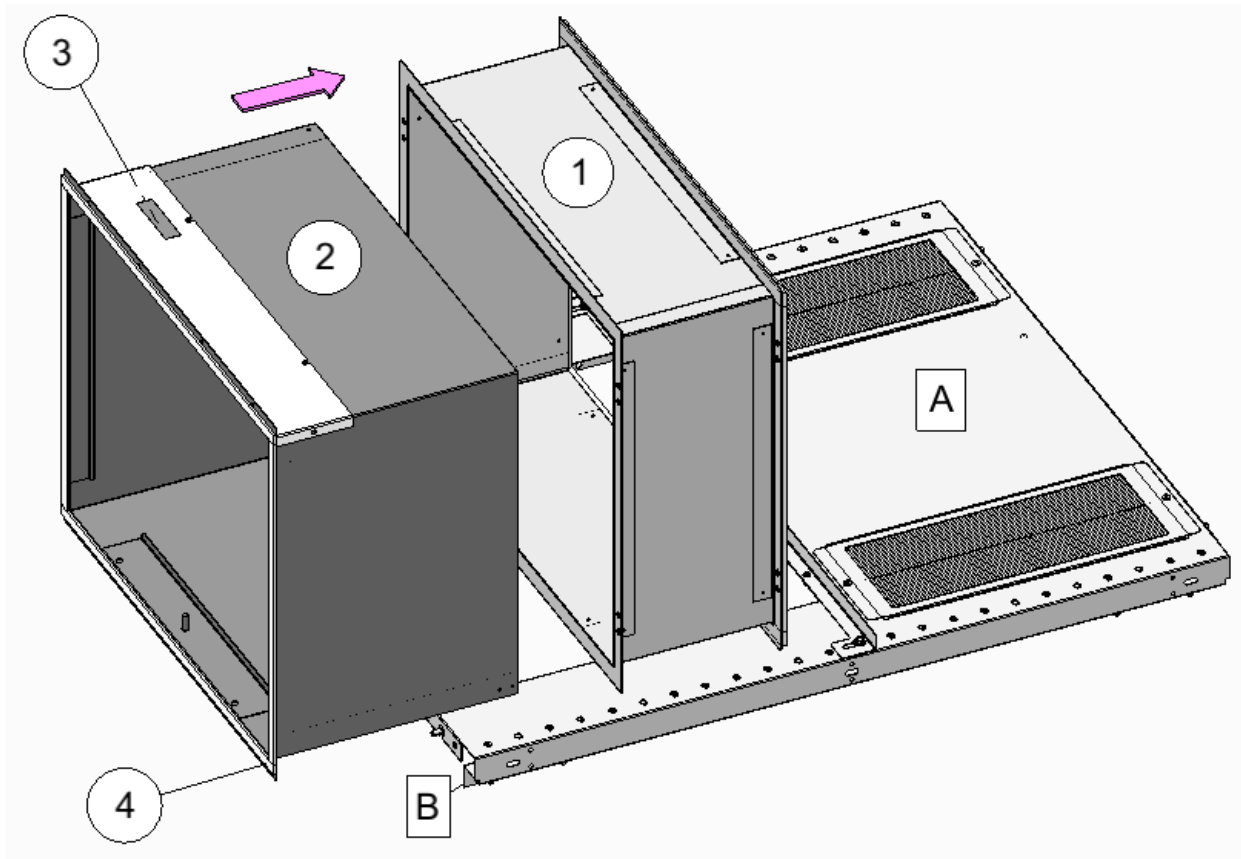

Figure 3: Slide Chimney Base Inside Chimney Top
Using TWO people, one on each side, lift the Chimney Base (2) to the roof of the enclosure and slide it inside the Chimney Top (1), as far as it will go. See Figure 3.